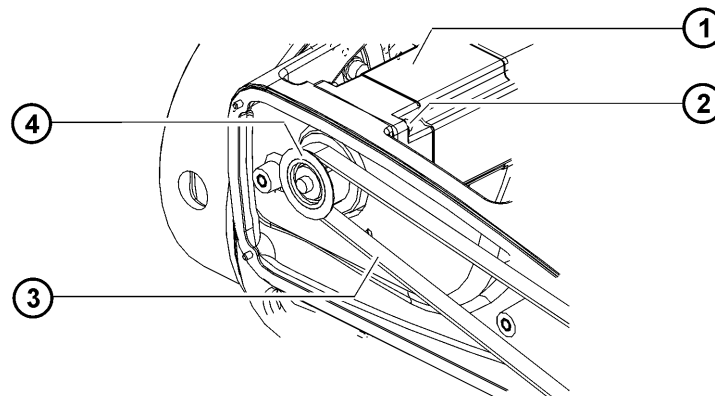

Fig. 11-28: Motor A6 with toothed belt
- Align and insert motor A6 (>>> Fig. 11-28) as shown in the illustration. When inserting toothed belts, fit them on the toothed belt pinions. When fitting the toothed belt, it must be ensured that it meshes properly with the toothed belt pinion.